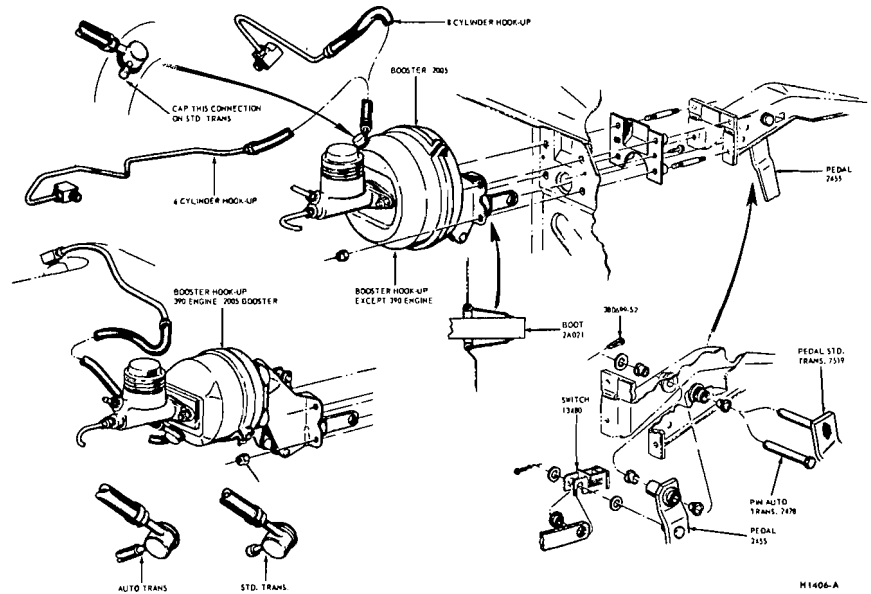

FIG. 25—Vacuum Booster Installation—Comet-Fairlane-Falcon
2. Remove the hairpin type retainer. Slide the stop light switch off the brake pedal pin **just far enough for the switch outer hole to clear the pin**, and then lower the switch away from the pin. Slide the master cylinder push rod link and the nylon washers and bushing off from the brake pedal pin (Fig. 25 or 26).
4. Working from inside the car, install the inner nylon washer, the master cylinder push rod link, and the bushing on the brake pedal pin. Position the switch so that it straddles the push rod with the switch slot on the pedal pin and the switch outer hole just clearing the pin. Slide the switch completely onto the pin, and install the outer nylon washer as shown in Fig. 25 or 26. Secure these